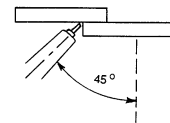

Figure 2.5
3. The electrode should be positioned at a 45° work angle and a 10° to 15° drag angle to perform the weld. (See Figures 2.5 and 2.6.)